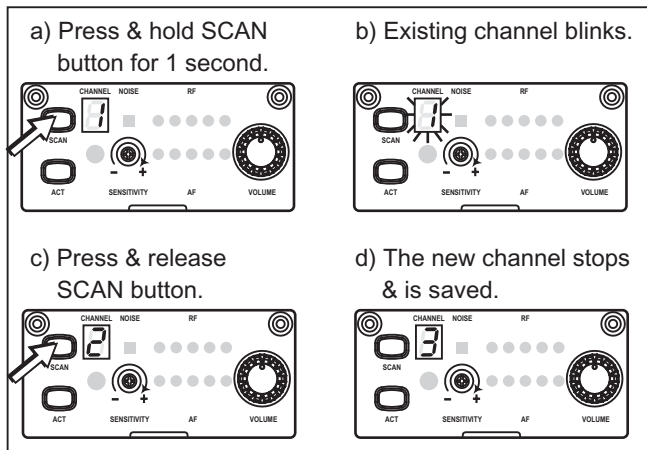

Fig. 2
(A) Scan Automatically for a Receiver Channel: Press & hold SCAN button **6** for 1 second, channel number in LED screen starts blinking. Press and release SCAN button once will automatically scans the environment and stops at the next open, interference-free channel. The new channel appears on the display, Fig. 2.